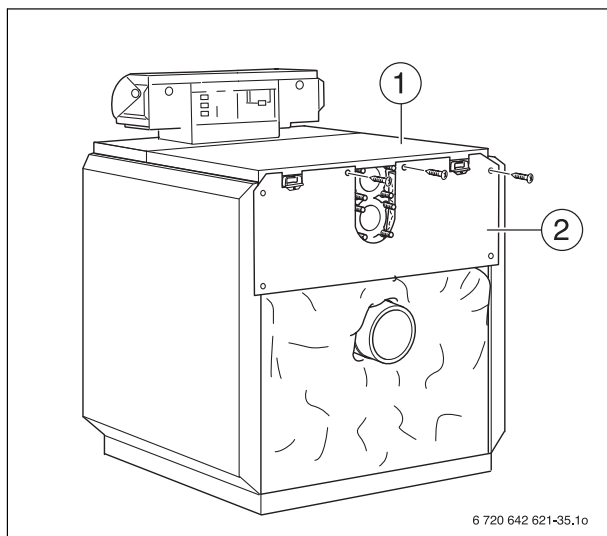

Fig. 41 Fitting the rear boiler panel
- ▶ Screw the top rear boiler panel (Fig. 41, [2]) to the back of the cover (Fig. 41, [1]) and the side panels.